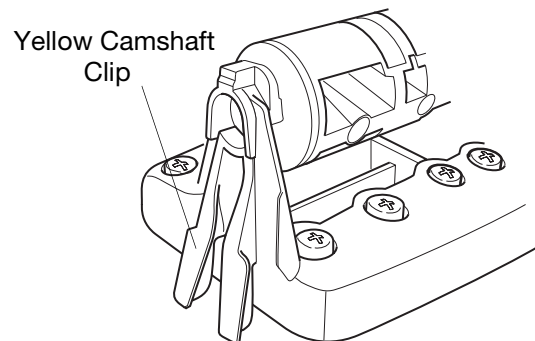
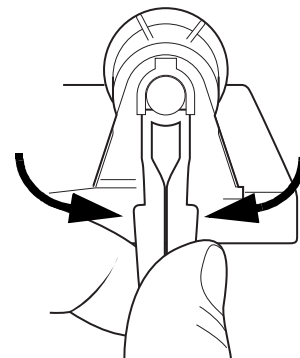

Figure 12
Figure 13
4. Remove the yellow camshaft clip, located at the rear of the camshaft (Figure 12) to remove the camshaft. Push the two ends of the clip together (Figure 13) to remove the clip from the back.